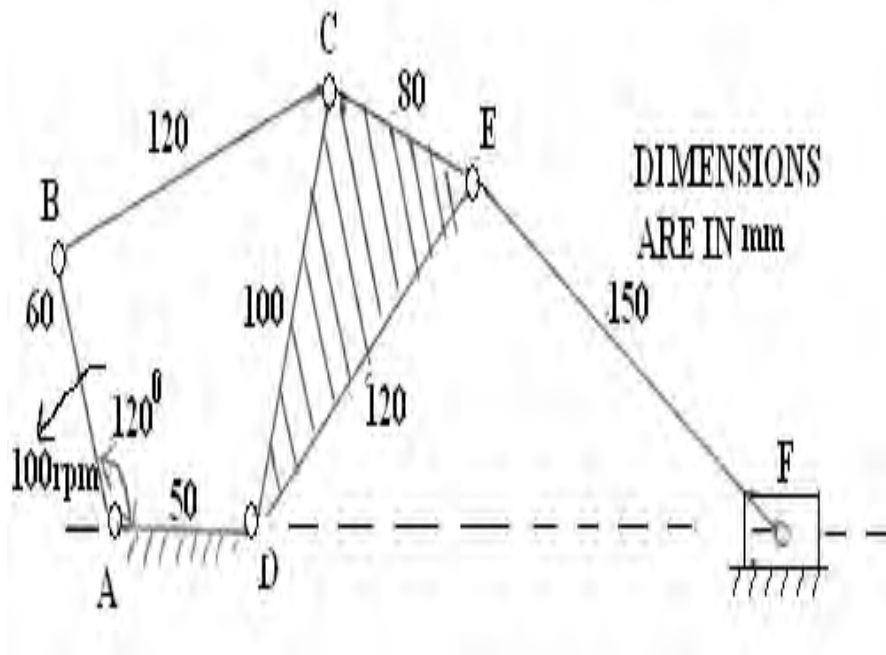

Figure 4
4. Find the velocities of points B, C, and D of the double-slider mechanism shown in the figure 4 if crank 2 rotates at 42 rad/s cw. Use instant centre method. [16]